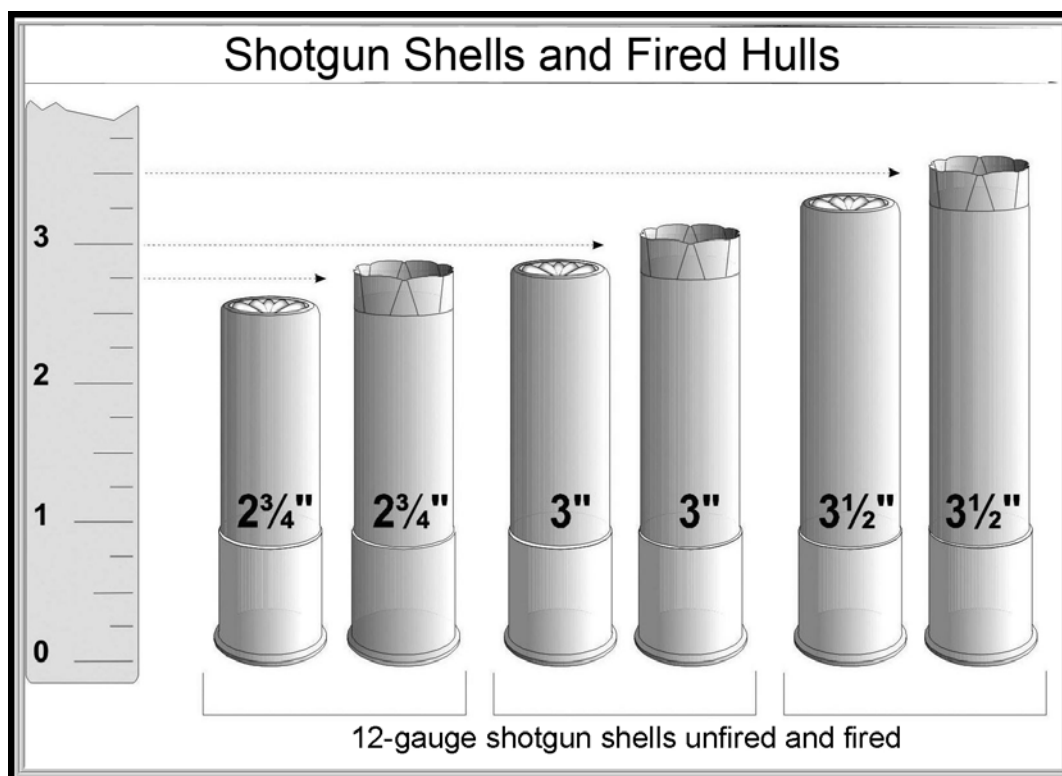

Figure 33. Shotgun Shells and Fired Hulls
**NOTE:** These dimensions refer to the lengths of the shells **after** firing (Figure 33).